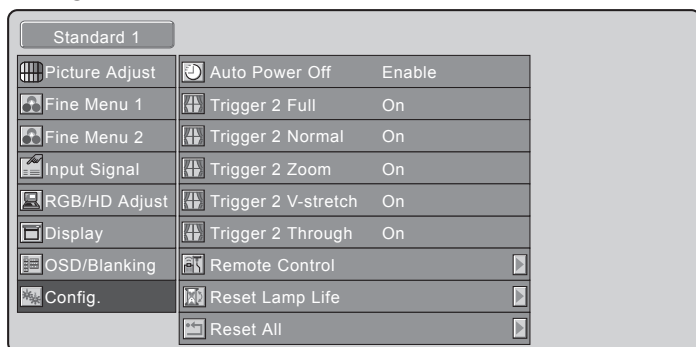

Figure 21
2. Using the Navigation ▲UP or ▼DOWN Push-button, select CONFIG. from the Main Menu choices. Refer to figure 21.